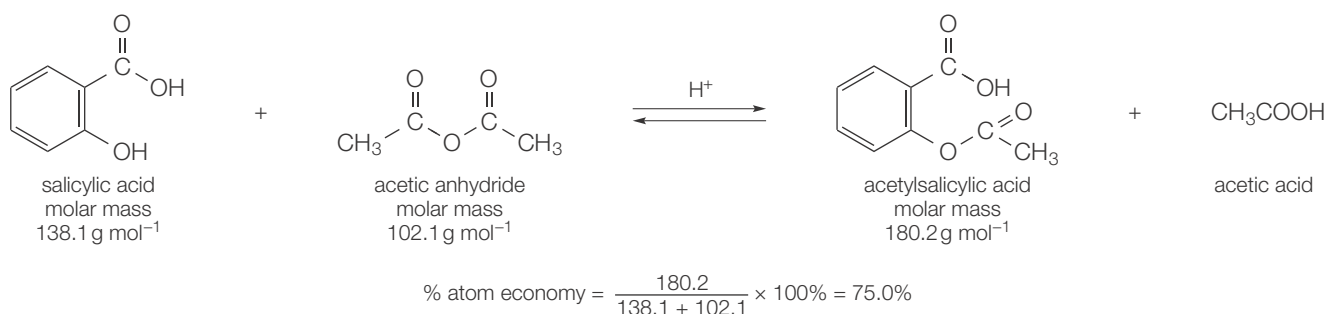

Figure 25.38 Atom economy for the synthesis of aspirin
- Aiming for a high atom economy and low environmental factor. The atom economy (Figure 25.38) is the ratio of the total mass of the desired product(s) to the total mass of all the products. Essentially this is a measure of how much of the reactants remain in the final product.